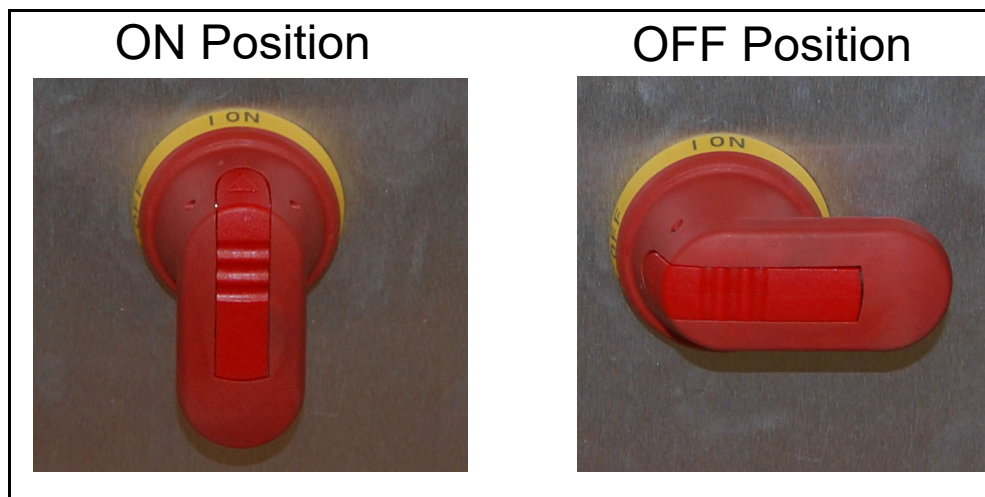

Figure 4-2: Main Disconnect Switch Handle - On/Off Positions
1. Confirm that the red handle of the main disconnect switch found within the cabinet is in the ON position (see Figure 4-2). If it is in the Off position, as described in “LOTO - Machine Maintenance and Repair” on page 79, check to see if anyone is working on the machine before attempting to power up.